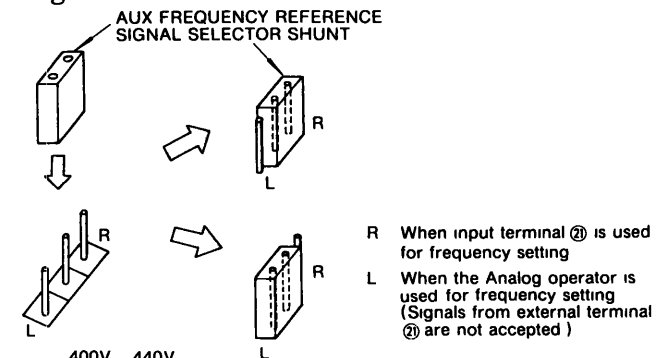

Fig. 13 Auxiliary Frequency Reference Signal Selection
(8) Selection of auxiliary frequency reference signal
When the Analog operator (optional) is not used, input terminal ⑫ can be used for frequency setting. The auxiliary frequency reference signal selector shunt must be set as illustrated in Fig. 13.